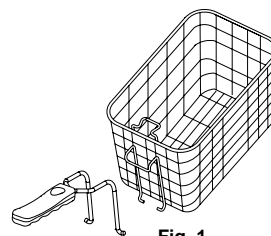

Fig. 1
- Use basket handle to remove the frying basket. Always make sure the basket handle is securely attached to the basket. Attach the handle to the frying basket, insert the metal part of the handle inside the metal bracket on the frying basket. (Fig. 1)